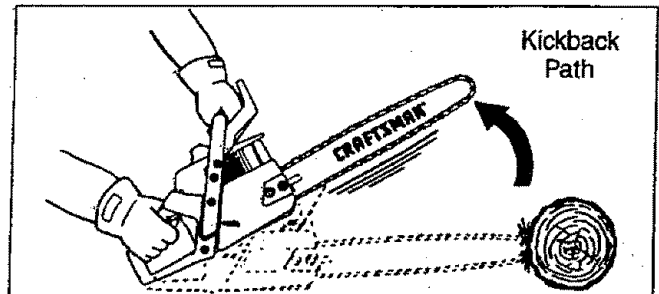

Figure 2
- Never let the moving chain contact any object at the tip of the guide bar. Figure 2.